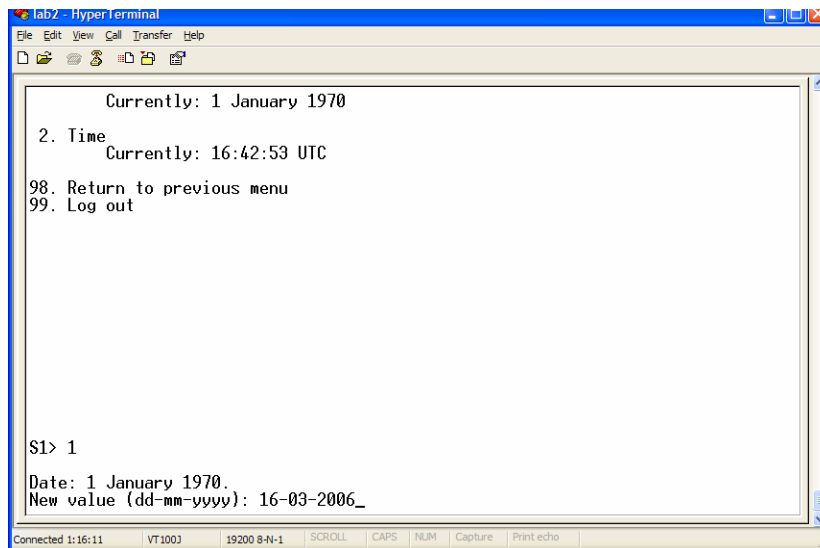

Figure 26. Updating the date for the system configuration
20. You see an intermediary system-configuration screen, where you select option **4** to see the **Time Of Day** panel (see Figure 26).